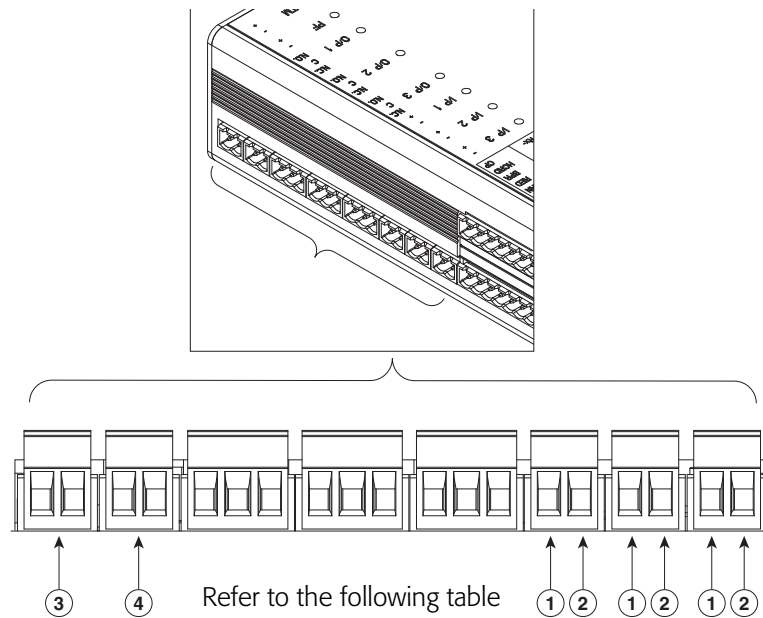

Figure 39: Input Connections on the Cisco Physical Access Gateway
- a. Insert two-pin connector plugs into the input ports (see Figure 39).
- c. Connect the wires from the input devices (see Figure 39).